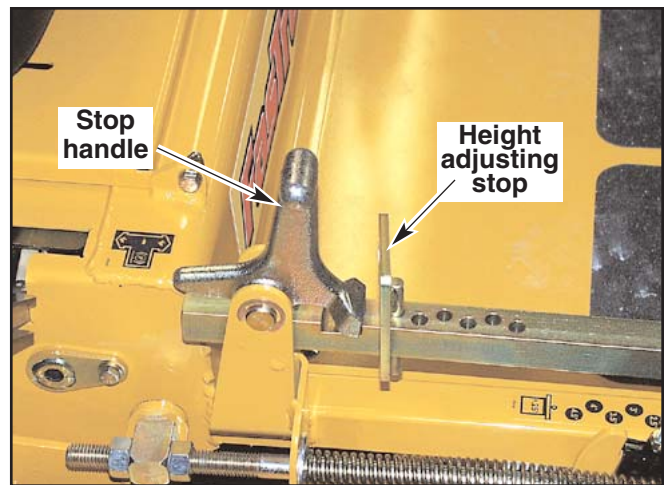

Figure 9-35
4. Set cutting height at 3 1/4" in the height indicator by placing the height adjusting stop in the 3" hole, and turning the height stop so that the flat side is against the stop handle. Fig. 9-35
5. Clamp the height adjusting stop against the stop handle (Fig. 9-35). This will assure that the height will not move during the setting process. Otherwise, spring pressure from the deck lift springs will tend to pull the stop away from the handle.